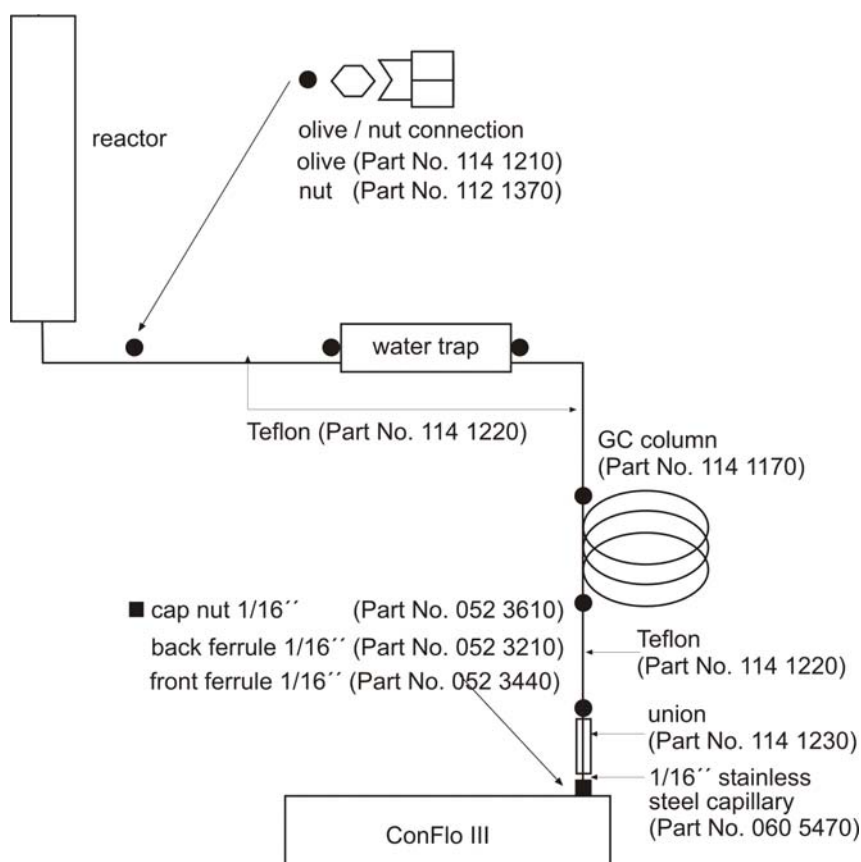

Figure 7-2. Installing Teflon tubing
* For additional part numbers (for example of nuts) refer to “Installing Teflon® Tubing” on page 7-5 and especially to Figure 7-2.
4. Replace all stainless steel tubing with Teflon tubing. See Figure 7-2.
To perform a sulfur measurement, a part of the stainless steel tubing needs to be replaced by Teflon tubing. Figure 7-2 provides an overview.